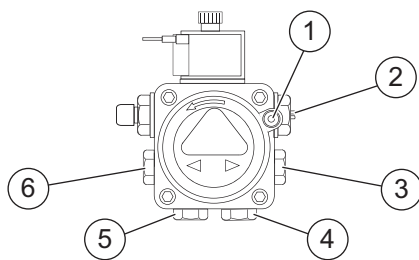
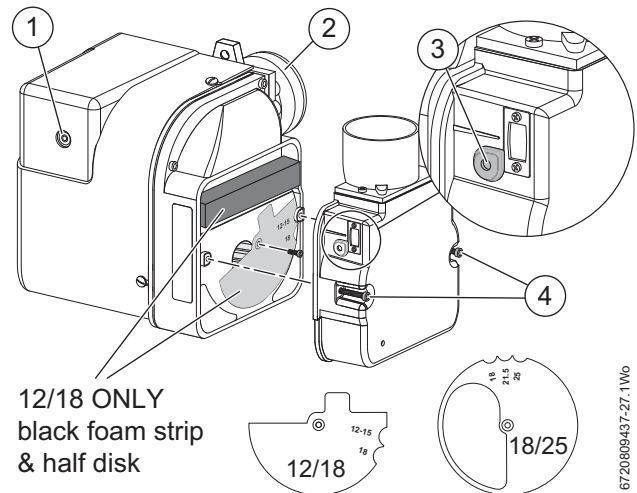

Fig. 65 Oil pump ports/connections
Fig. 66
- ▶ Adjust the air shutter [3] figure 66 and pump pressure [2] figure 65 as shown in the table 8 on page 39. The burner should ignite following a pre-ignition period of approximately 15 seconds.